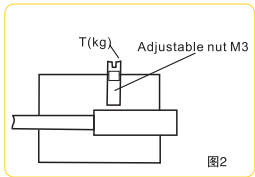

图2
- Mounting for cylinder type : To adjust the fixed screw and keep the torque in the range of 2-4kgf-cm. (Fig. 2)